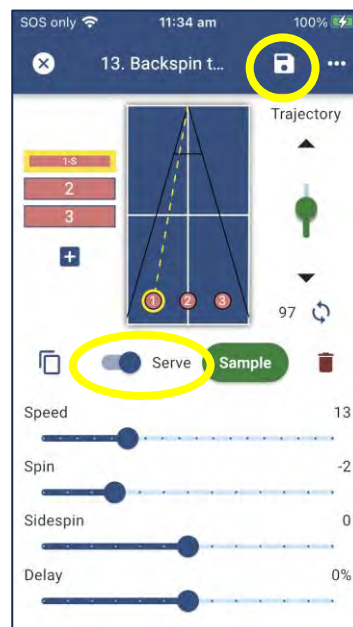

Figure 3-66
3. Press the Serve toggle/slider switch so that it is in the ON position. (Figure 3-66)